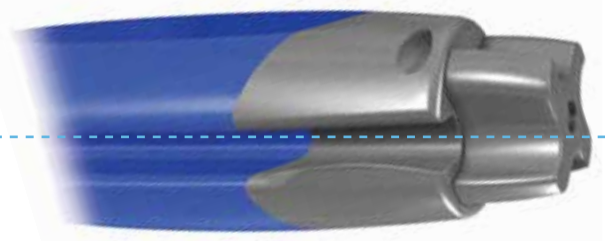

Figure 27
- Insert the impactor rod into the locking tube and turn it all the way round three times to lock the two components together (**Figure 27**).